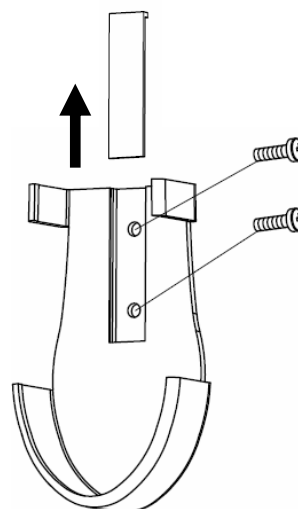

Fig. 15a
2. Remove the screw cover and install the holder using the 2 screws and re-install the screw cover. (Fig. 15a).